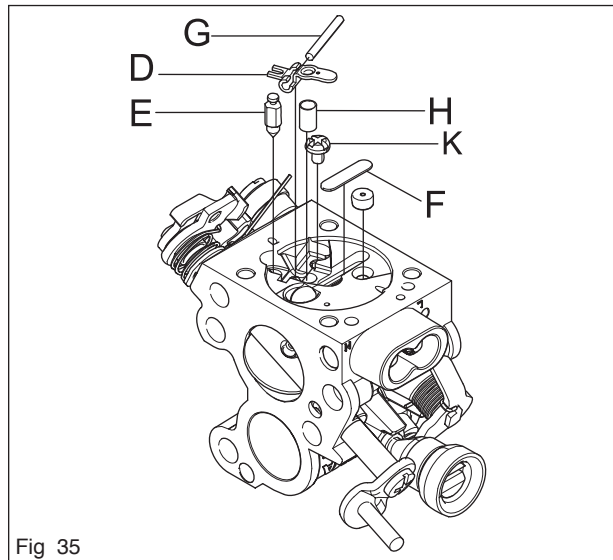

Fig 35
5. Fit the needle valve (L) with lever (M), shaft (N) and spring (P) and tighten the screw (K). Fit the expansion washer (F) (see figure 35).